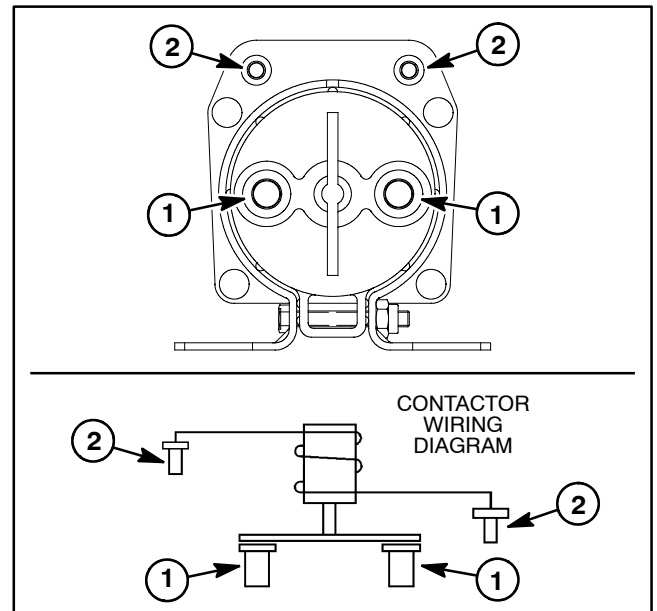

Figure 56
6. Using jumper wires, apply 48 VDC directly across the contactor coil posts (Fig. 56). The contactor should click as the coil is energized. With the contactor coil energized, resistance across the main contact posts should be less than **1 ohm**.
8. With no voltage applied to contactor posts, measure resistance across the contactor coil posts (Fig. 56). The resistance should be approximately **126 ohms**.
10. Connect electrical connections to main contactor (Fig. 56). Torque nuts that secure connections to contactor main contact posts from **40 to 50 in-lb (4.6 to 5.6 N-m)** and nuts that secure connections to contactor coil posts to **20 in-lb (2.2 N-m)**.